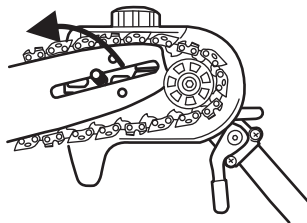

Fig. 20
5). Take off the guide bar and chain. (Fig.20)